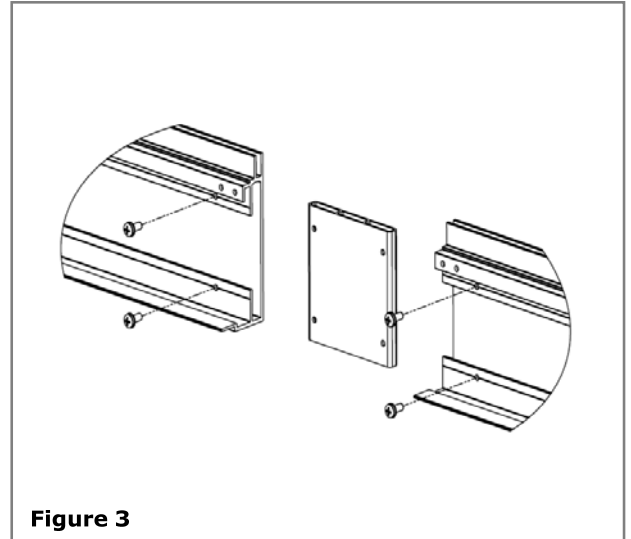

Figure 3
6. Adjoining sections are held together by splice plates (part #490279). **See Figure 3.**